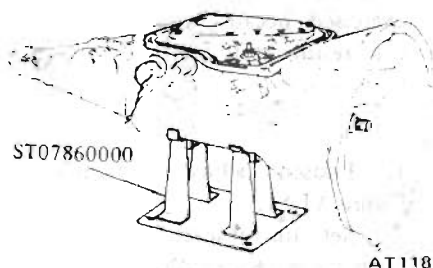

Fig. AT-52 Removing oil pan
1. Drain oil from the end of rear extension. Mount transmission on Transmission Case Stand ST07870000 or ST07860000. Remove oil pan. See Figure AT-52.